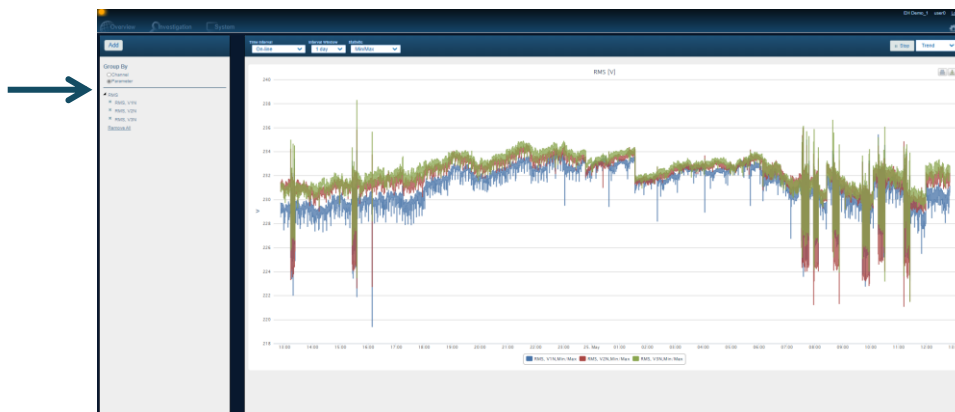

Figure 5-14: Investigate Trends – 2
- 2** If no parameters were added previously, use the **Add** button on the upper-left side to add the parameters to be displayed as a trend, as described on page 114. After you add them, the parameters appear listed in the left pane of the Investigation window, as shown below (Figure 5-14).